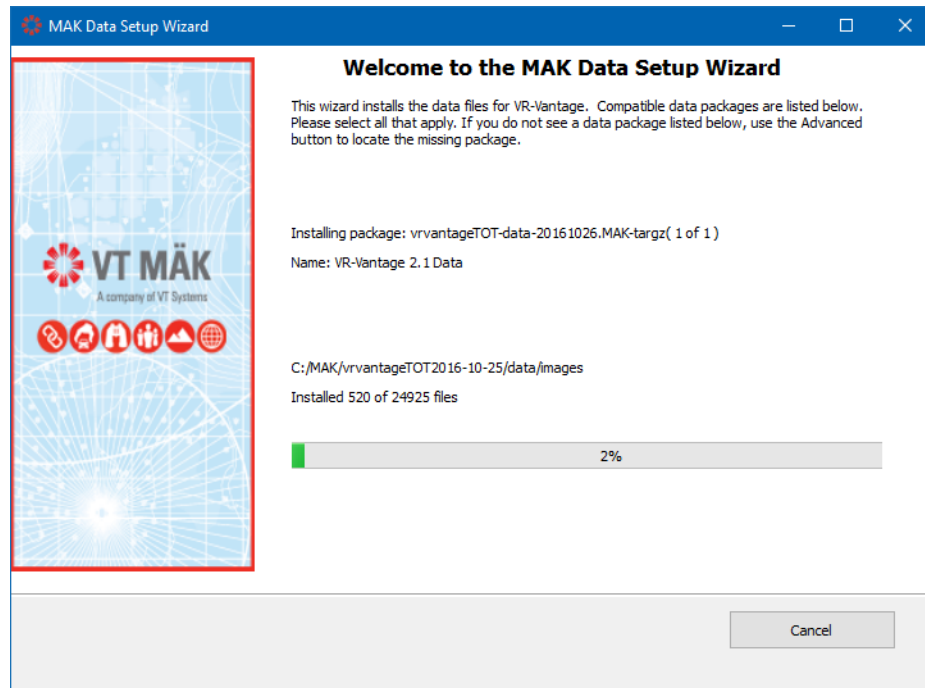

Figure 1-4. MAK Data Setup Wizard
4. Continue with the installation wizard. When the application installer finishes, the MAK Data Setup Wizard (similar to Figure 1-4) opens automatically and installs the data.